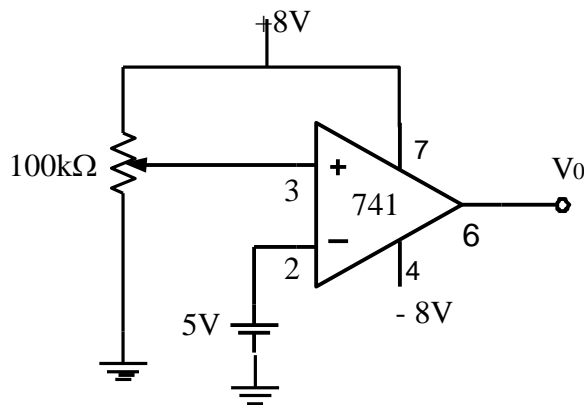

Figure 4
1. Wire up the op-amp and pot as shown in Figure 4.